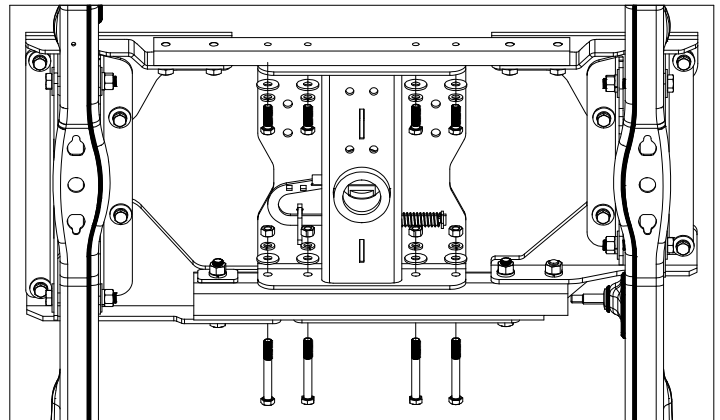

Figure D2: Bottom of truck frame looking up from the back of truck towards the cab
2. **Install hardware.** Attach the center to the front cross member by passing 1/2" x 4" bolts through the washer plate, and cross member and into the center section. Secure the bolts with flat washers, lock washers, and nuts. Next, attach the center to rear cross member with 1/2" x 1-1/2" bolts, flat washers, and lock washers, see Figure D2.